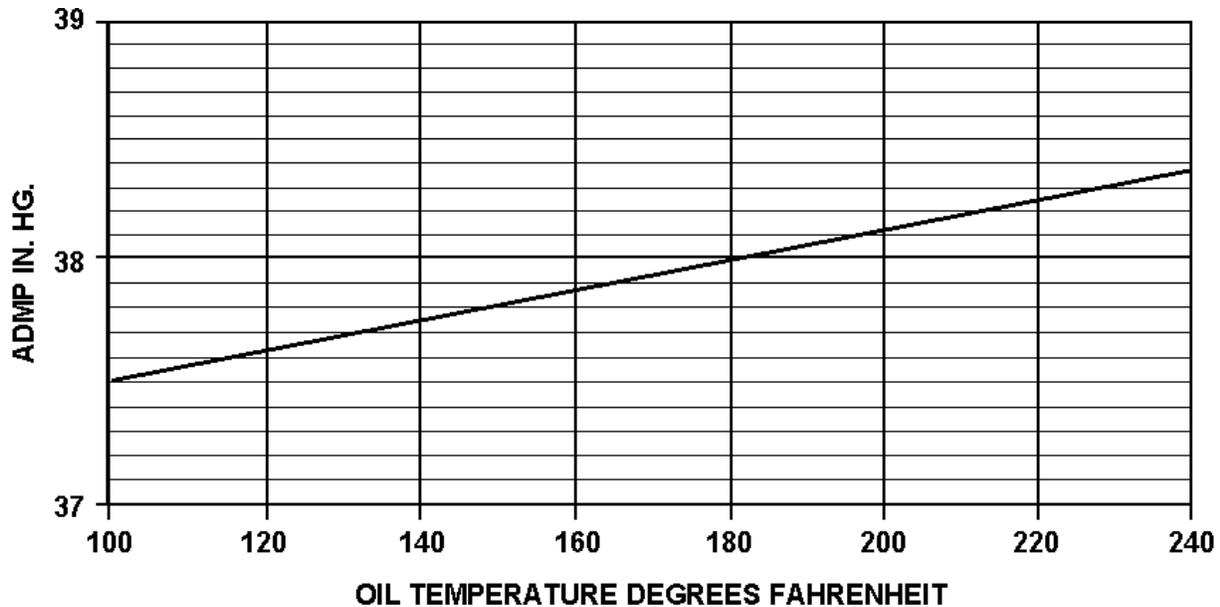

FIGURE 23-5. ADMP VS. OIL TEMPERATURE
- b. Using a handheld digital tachometer, adjust the propeller controls to 2600. With the throttle in the full forward position, set the intake manifold pressure to the value shown in Figure 23-5 (± 0.5 In. Hg.) by adjusting the screw on the top of the controller.